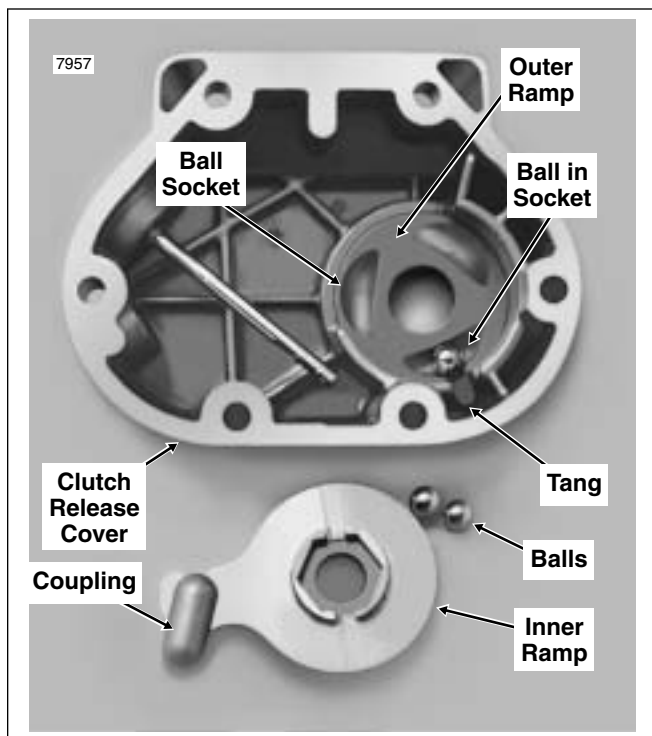

Figure 7-15. Install Outer Ramp and Balls
2. See Figure 7-15. Place outer ramp in clutch release cover recess with tang in cover slot.